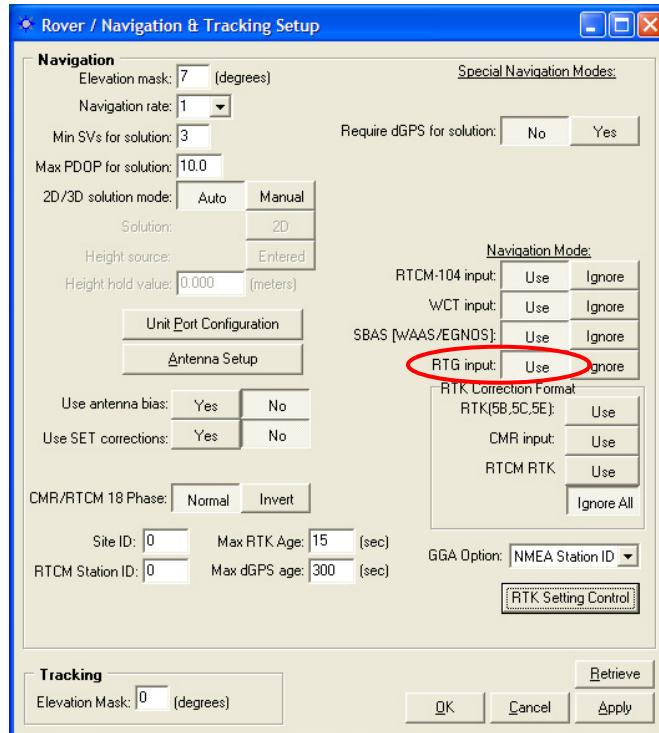

Figure 72: Rover Configured for StarFire™ Navigation
- ✓ Click the icon on the toolbar to confirm that the rover is configured for StarFire™. The *Rover / Navigation & Tracking Setup* window opens. The navigation mode, *RTG input*, must be set to *Use* (the default) to enable StarFire™ navigation (see Figure 72).